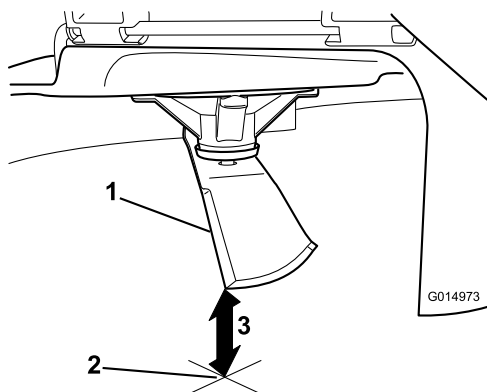

Figure 79
3. Measure from the tip of the blade to the flat surface (Figure 79).